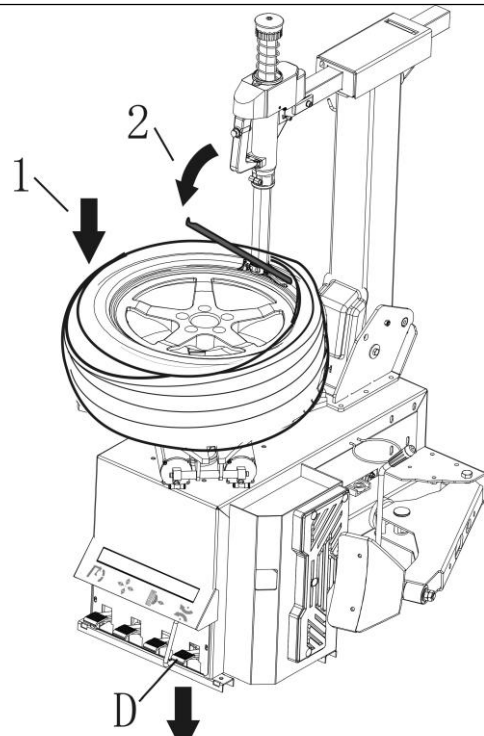

Fig. 18
- Insert the crowbar to the tyre as show Fig.18.
- Press the pedal D (Fig. 18) until all the tyre edge come out.
- Please stop and counter clockwise rotation the working plate to correct the operation if hard to operate. (Fig. 18)